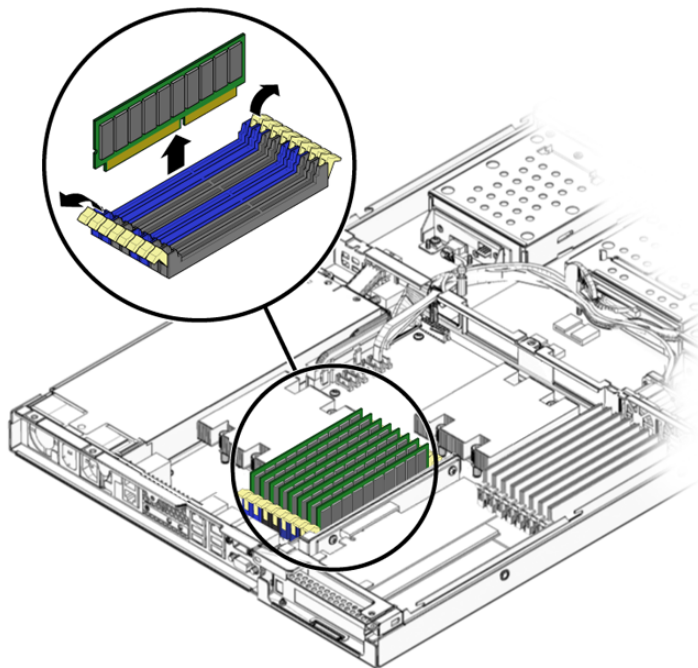

FIGURE 4-25 Removing a DIMM
3. Remove a DIMM by pressing down on the ejector bars at both ends of the memory module's socket (see FIGURE 4-25).